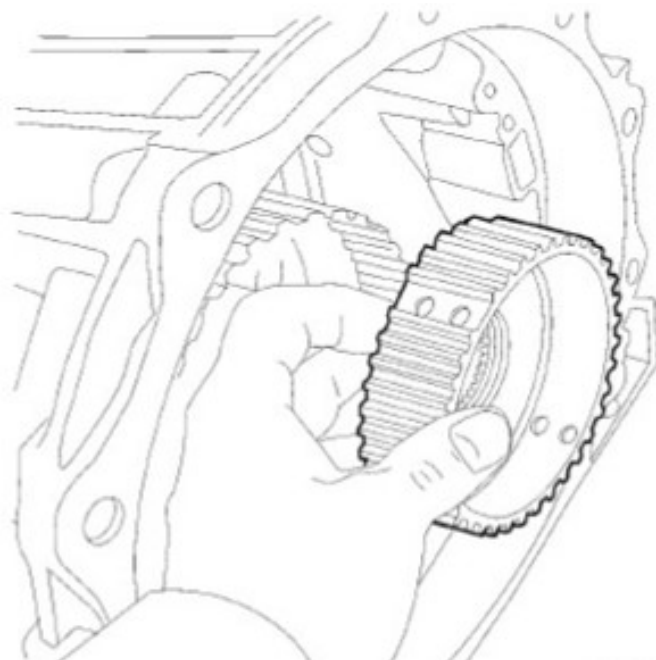

Fig. 8
12. Remove and inspect the K1 clutch hub Fig. 8 and Fig. 9. **Replace only if needed.**